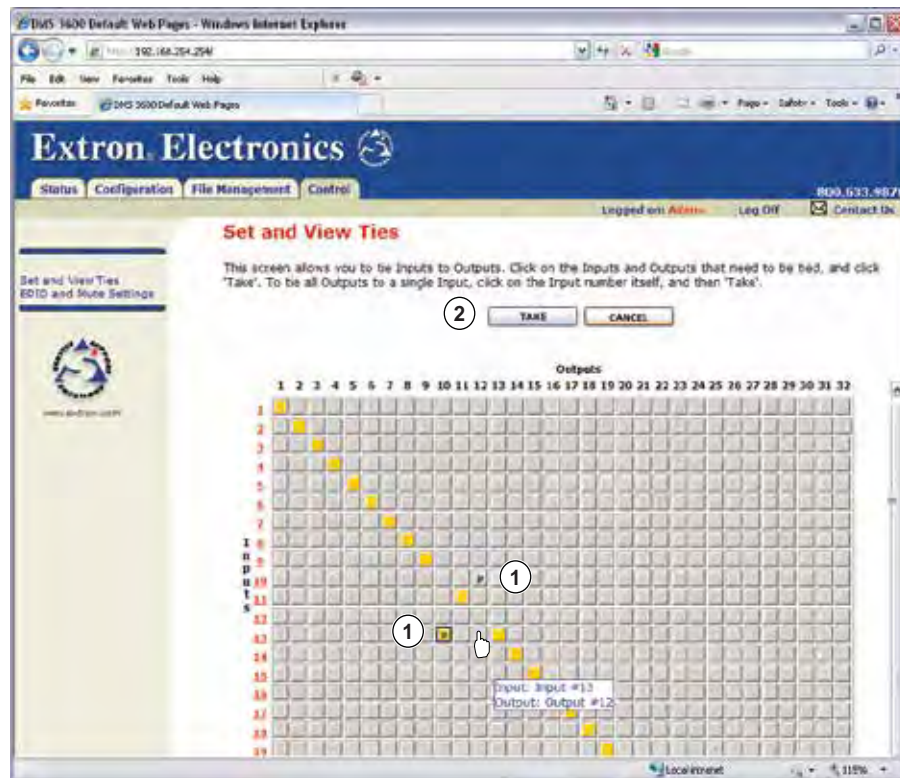

Figure 65. Set and View Ties Page
You can create ties on the Set and View Ties page (see figure 65). Access the Set and View Ties page by clicking the **Control** tab.
A “P” (for pending) appears in the button (see figure 65 [①]).